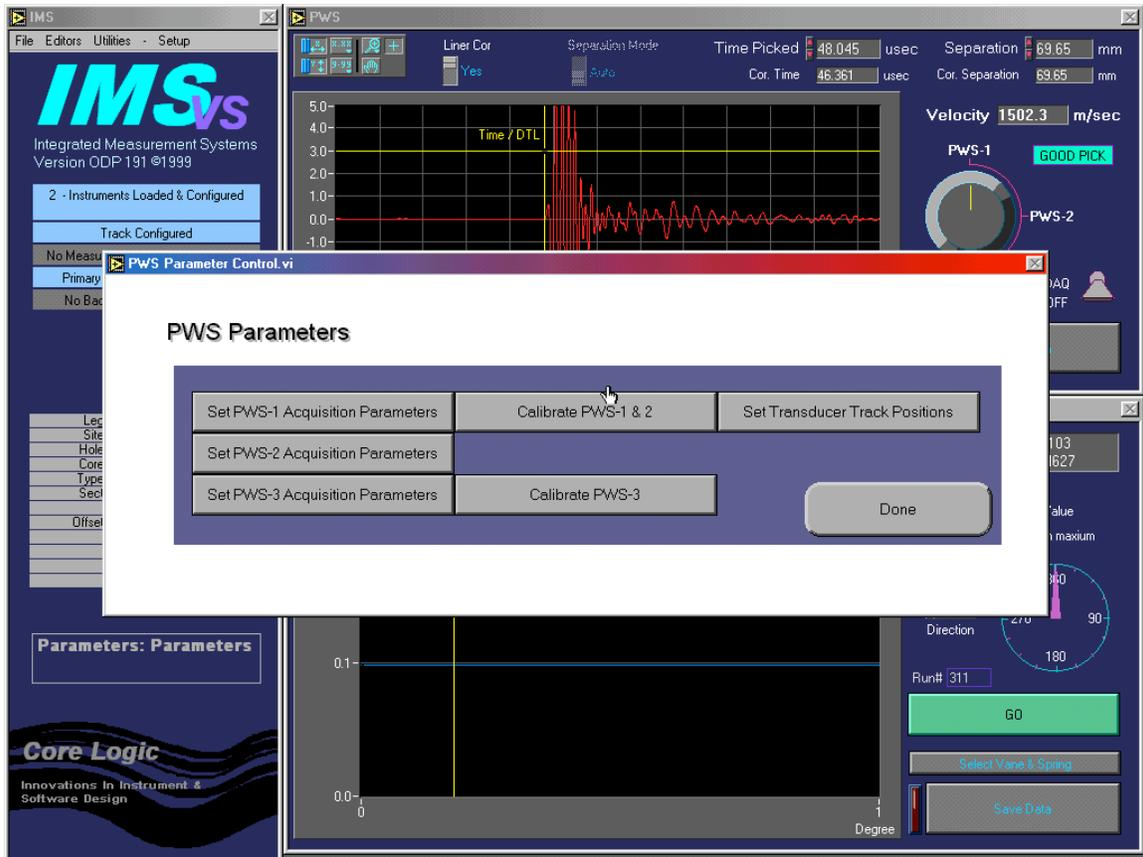
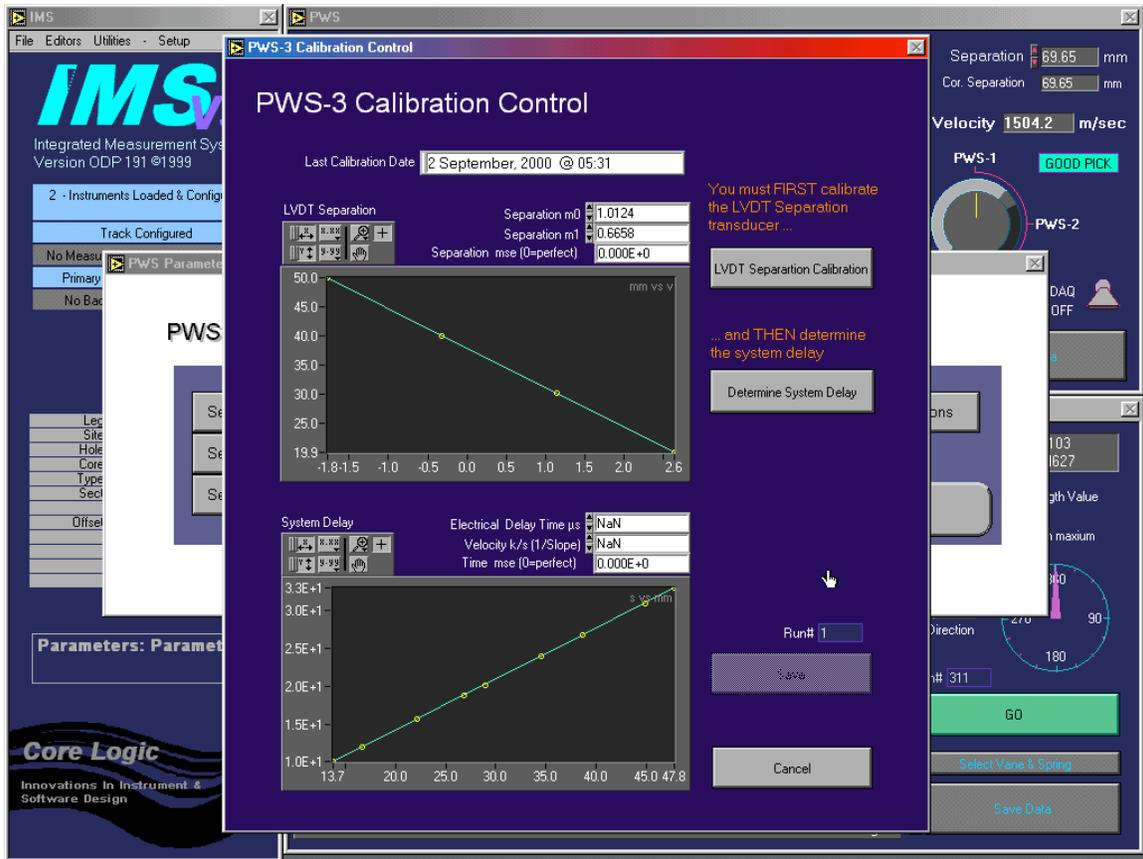

Figure 8. PWS Parameters.
Figure 10. PWS3 Calibration Control.
1. On the main IMS VS panel, under SETUP select PARAMETERS, then PWS. The PWS Parameters Screen will appear (Figure 8).
1. From the main IMS VS screen, under SETUP select PARAMETERS and then PWS. **Figure 8**, the PWS Parameters screen, will appear. From this screen, select CALIBRATE. The PWS3 Calibration Control screen (**Figure 10**) will appear.